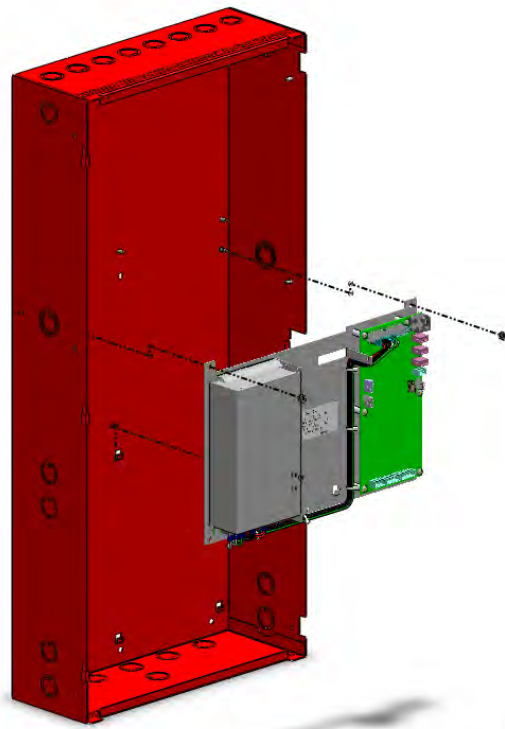

Figure 2-20. Installing the Add-On Power Supply/PMU Assembly with Bracket
5. Orient the Power Supply/PMU Assembly with the power supply unit(s) to the left, as shown below in Figure 2-20.